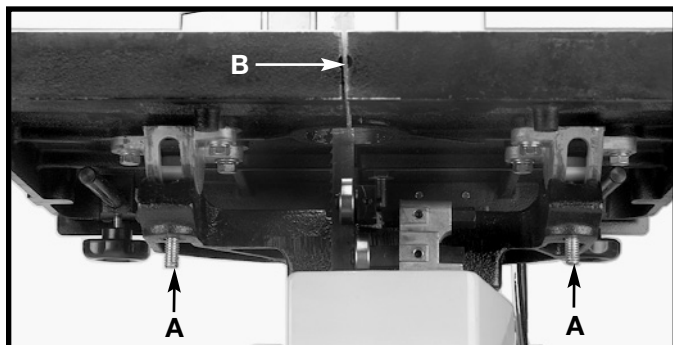

Fig. 6
NOTE: Make sure that the table slot (B) Fig. 6 is facing toward the right of the machine.
3. Align the two table studs (A) Fig. 6, in the bottom of the table, with the two holes in the trunnion assemblies.